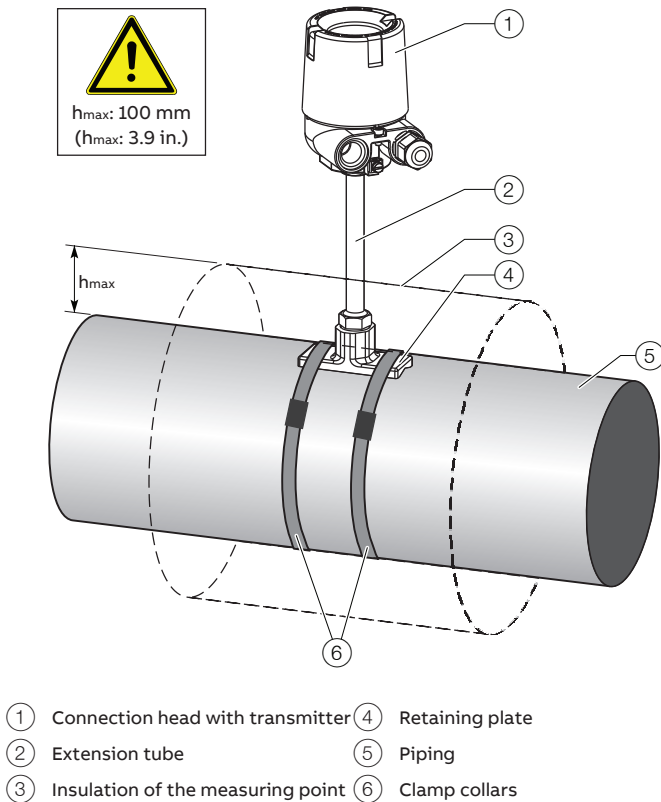

Figure 10: Assembly on piping (example))
- Insulate measuring point to the height ' h_{\max} ' as presented in Figure 10 only.